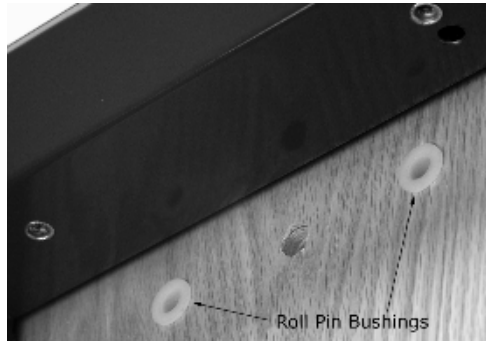

Figure 13. Installing the Roll Pin Bushings
3. INSTALL the roll pin bushings into the door (see Figure 13, “Installing the Roll Pin Bushings”).